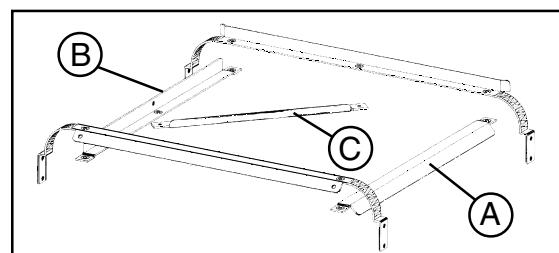

Figure 3b
2. Move front rack guide (A) to the right side of the rack tracks. (See Fig. 3b) Use existing hardware.
3. Unbolt the track (B) and rack support rod (C).
5. Bolt (B) and (C) as shown in Fig. 3b.